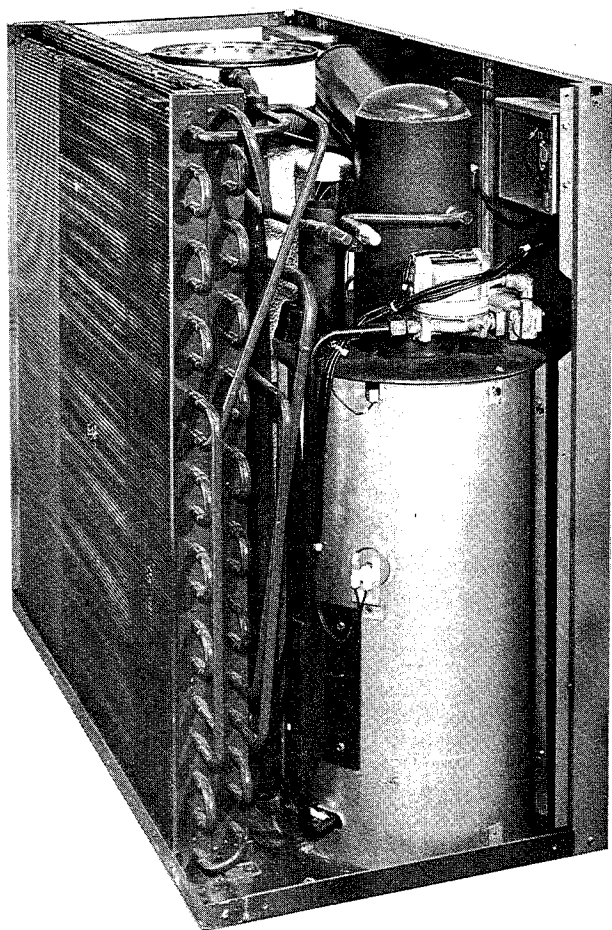

Figure 3 - Gas Connections
2. The gas supply pipe enters the unit through a knockout located in the rear of the unit near the left side. This unit requires one nipple that is threaded into the 1/2-inch combination regulator-shutoff valve, see Figure 3.